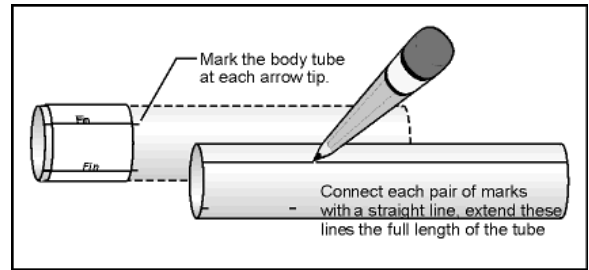

Figure 6
- Cut out the Fin Marking Guide and wrap it around one end of the **Body Tube**. Mark off the locations of the 3 or 4 fins and the Launch Lug, on each end of the marking guide. Extend these lines as shown in **Figure 6**, the full length of the body tube.